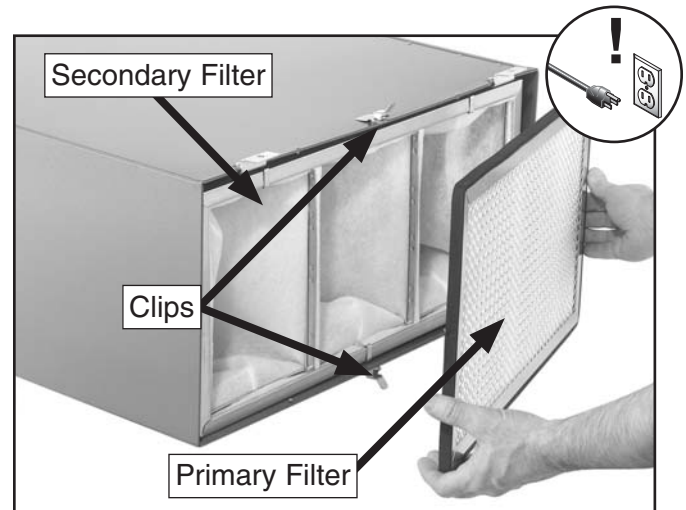

Figure 11. Filters exposed for cleaning.
2. Unlatch the filter retaining clips from the top and bottom of the unit, as shown in **Figure 11**, remove the primary filter and place it in a trash bag. Shake it gently to remove the bulk of the dust.